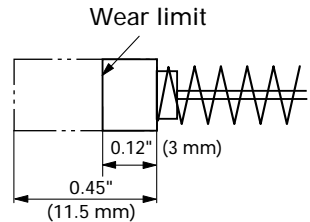

Fig. 31
4. Inspecting the carbon brushes (Fig. 31)